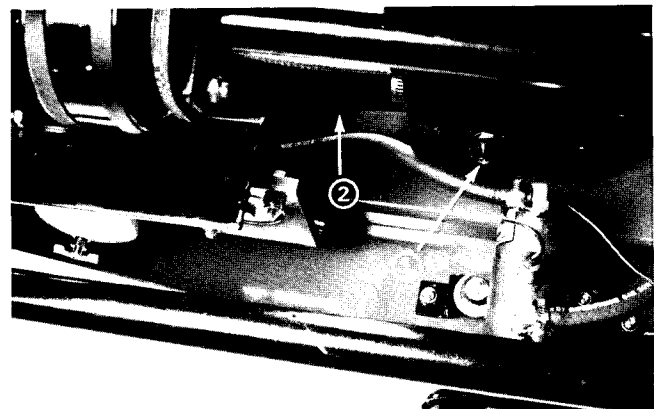

Figure 21b
2. Drain the cooling system by opening the drain valve on the bottom of the radiator or disconnecting the lower radiator hose at the radiator (Fig. 21b).